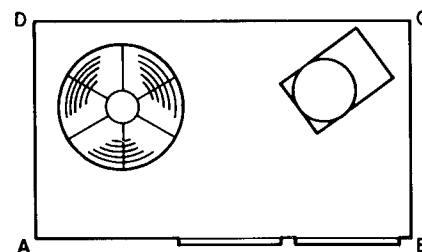

Fig. 4 — Dimensions and Clearances (ft-in.)
4. Refer to Fig. 4 for locations of gas inlet, electrical inlets, condensate drain, duct connections, and required clearances before setting unit in place.
CAUTION: When installing unit on a rooftop, be sure roof will support the additional weight. Refer to Fig. 4 to obtain total weight and corner weight information.
CLEARANCES — Required minimum operating and service clearances are shown in Fig. 4 for providing adequate combustion, ventilation and condenser air.
Models 48KH, KL dispose of condensate water thru a 3/4-in. MPT drain fitting. See Fig. 4 for location.
VENTING — The vent cap, combustion air shroud and flue assembly are shipped in either the blower or control compartment. Vent screen is taped to blower housing. Remove access doors to locate assemblies. See Fig. 4 for door locations.
Step 2 — Make Gas Piping Connections — The gas supply pipe enters unit thru access hole provided. See Fig. 4 for location. The gas connection to unit is made to the 1/2-in. FPT gas inlet on gas valve. See Fig. 6 for inlet location.
Step 3 — Make Duct Connections — Model 48KH,KL has duct flanges on the supply- and return-air openings on side of unit. See Fig. 4.
The field-supplied disconnect switch box may be mounted on unit over the high-voltage inlet hole in control corner panel. See Fig. 4.